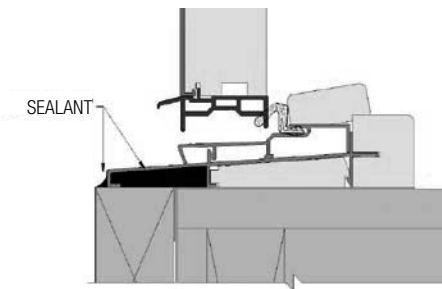

**FIG. 15: STANDARD DOOR SILL**
- B) Attach a sill support block beneath the sill. Apply a bead of sealant at the nose of the sill and support block. (Fig. 15 & 16)